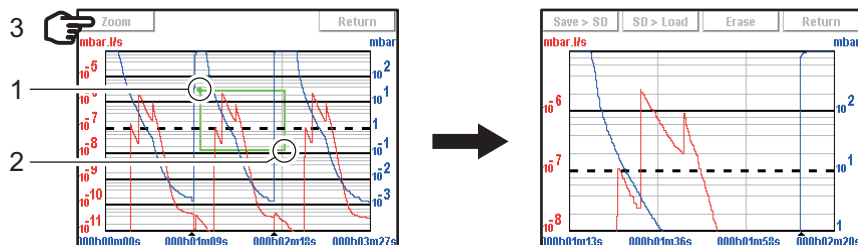

Fig. 15: Selection and viewing the area to be enlarged
➔ Select the point to measure (ref. 2 Fig. 15).